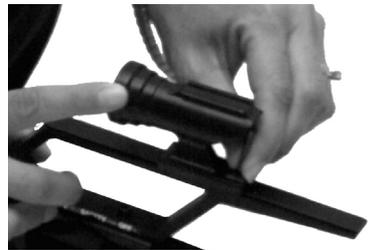

Fig. 9
- Tighten setscrew when the peep is in the proper eye relief position with the hex key provided. **See Figure 9**